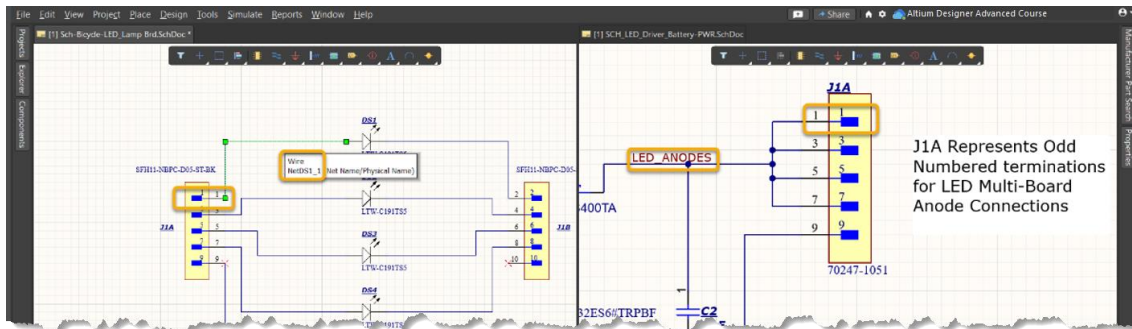

Figure 20. Example of Message class Error with Net Name Expectations
- a) **Message class Error** - Net Name [net name] for connection C\_1 does not match with Net [net name] of Pin [Designator - pin #] in child project Module M1 or M2. This message is displayed because the net names on either side of child PCBs don't match. That's not always possible. Figure 20 below shows the net names of each respected child schematic for this MD Design. In this figure you can see a net called DS1-1 on connector J1A-1 for the LED Lamp Board and a net called LED\_ANODES for J1A-1 on LED Driver Main Board. These connections are correct. For the LED Driver Main Board, you have grouped them together with a polygon pour. However, for the LED Lamp board, the designer decided to make individual connections. Since these connections are individual connections on the LED Lamp board, you can't use the same net name for them. In conclusion, this is an allowed error.